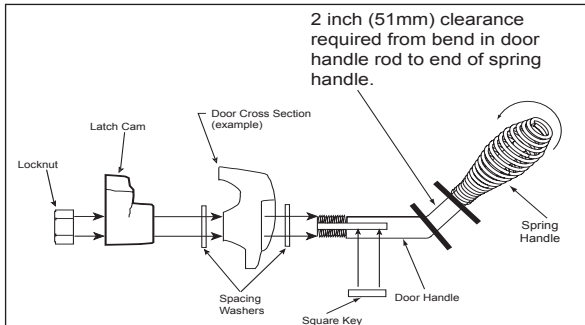

Figure 23.1
3. Install second washer(s) as shown in **Figure 23.1**.
7. Install spring handle turning in a counter-clockwise motion to **required** 2 inch (51mm) clearance location on door handle rod (**Figure 23.1**).